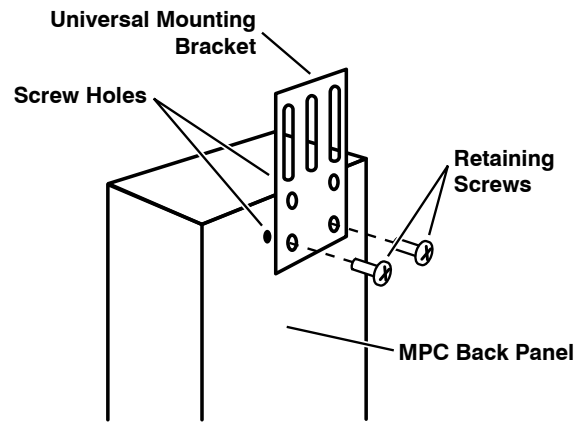

Figure 8: Attaching the Universal Mounting Bracket to the MPC Unit
- b) Refer to Figure 8 on the following page, and then use the retainer screws to attach one Universal Mounting Bracket to the top of the back panel, and one Universal Mounting Bracket to the bottom of the back panel. Prior to attaching the mounting brackets, make certain that the beveled edge of the screw holes faces outward, so the head of the screw will nest within the bevel.
- a) Use a retaining screw to secure the top mounting bracket to the equipment rack post or mounting pad as shown in Figure 8.